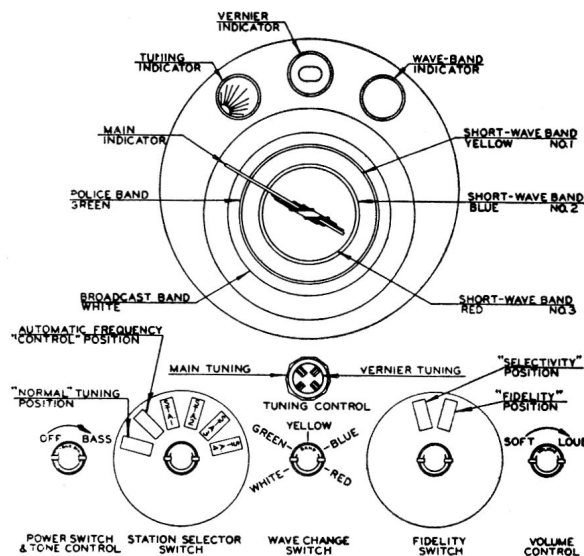

Figure 1.—Control Layout
**GENERAL:**—This model is an a-c operated radio receiver in a console cabinet using eleven tubes and a superheterodyne circuit. There are five tuning bands, of which the Broadcast and Police have the usual range, but the three short-wave bands have "spread-tuning". The "Dial-O-Matic" tuning feature comprises the use of manual tuning with automatic frequency control on the Broadcast band, and the selection by means of the Station-Selector Switch of any of four predetermined stations. Variable selectivity is provided by means of the fidelity-control switch. The tuning indicator is an incandescent lamp that dims when a station is tuned in. This lamp does not light when the fidelity control is in the "High-Fidelity" position. A variable tone control is provided also. The chassis is of three-unit construction, in which the new-style "Centromatic" unit forms the centre part and mounts all the tuning mechanism and r-f tuned circuits. A special tuning capacitor gang, which has separate smaller sections for the spread bands, is mounted upon this unit on rubber cushions. A split knob is used on the tuning control shaft to give slow or fast tuning. A large size airplane dial with an edge-lighted glass dial is used, and has the calibrations printed in different colours. The tuning indicator, vernier tuning indicator, and the band indicator are located at the top of this dial as shown in Figure 1. The ten-inch loudspeaker is enclosed in a special "Mirrophonic Tone Chamber".